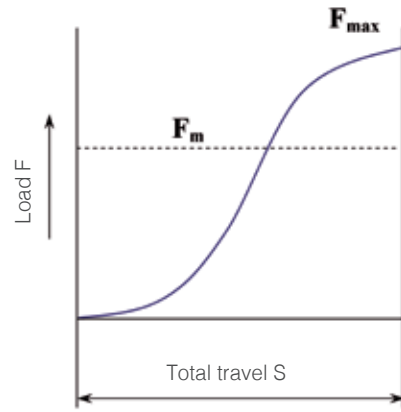

Figure 2.9 Sinusoidal load change (a)
- Sinusoidal (Figure 2.9 and 2.10)